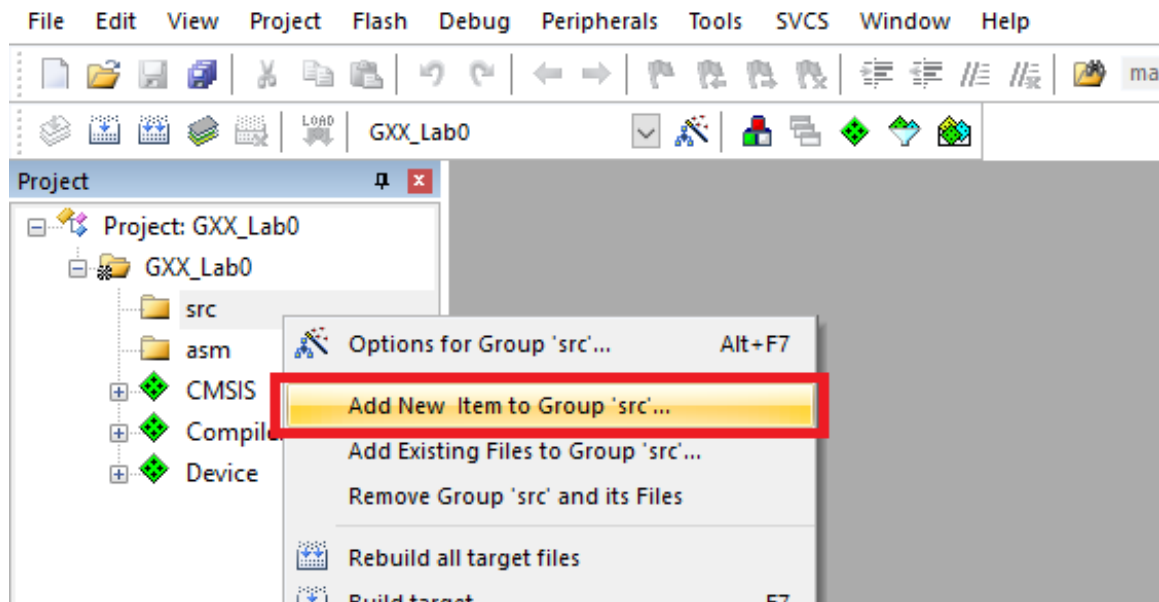
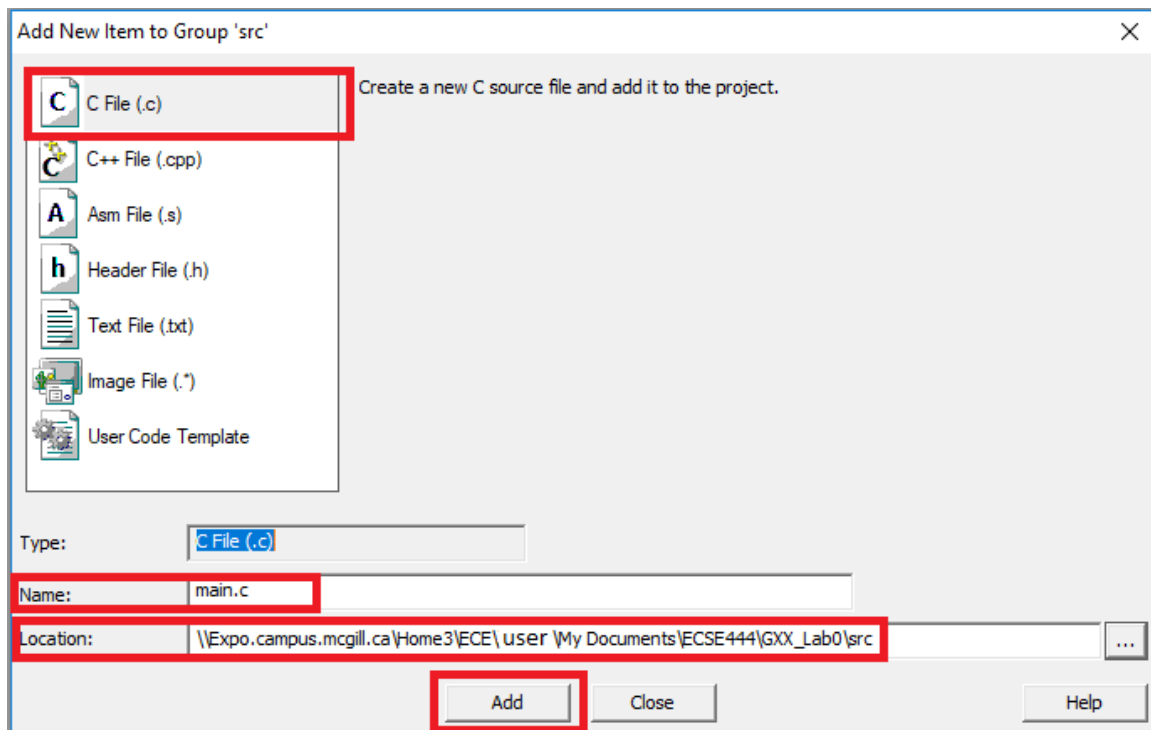
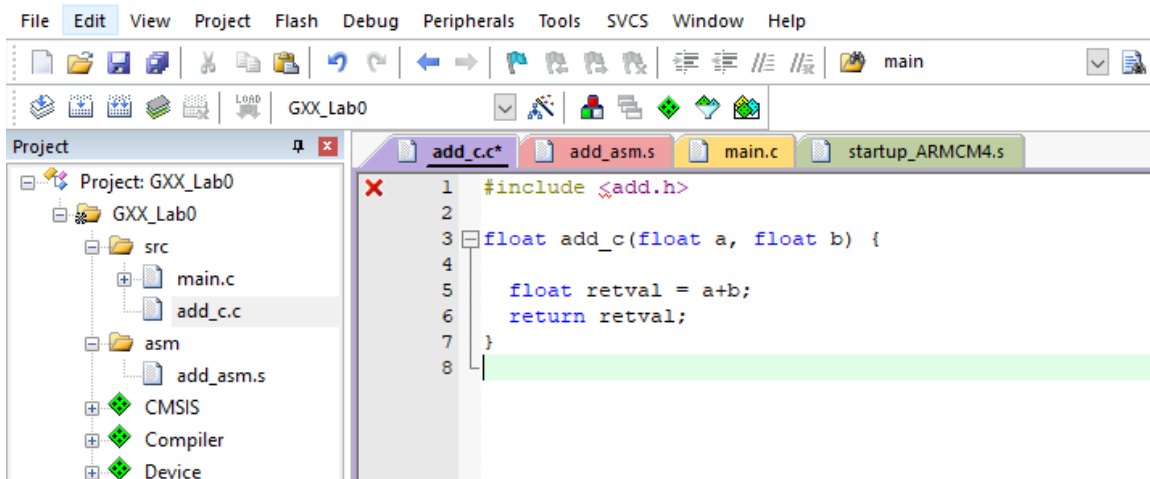

Figure 12: Adding a file to a group.
Figure 13: Adding the **main.c** file.
Figure 22: C code for floating point addition.
1. Add a new file **main.c** to the **src** group as shown in Figure 12 and Figure 13.
2. Create a new file **add.c.c** in the *src* group in the same fashion as in Figure 12 and Figure 13 (but the filename is different!). Write the code shown in Figure 22 and save the file.